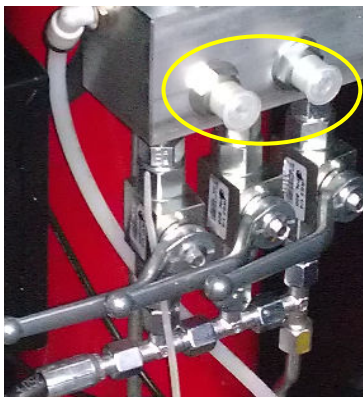

Fig. 5 – Hydraulic Connection
13) Connect the hydraulic lines to the block connections inside the control unit, Fig. 5.